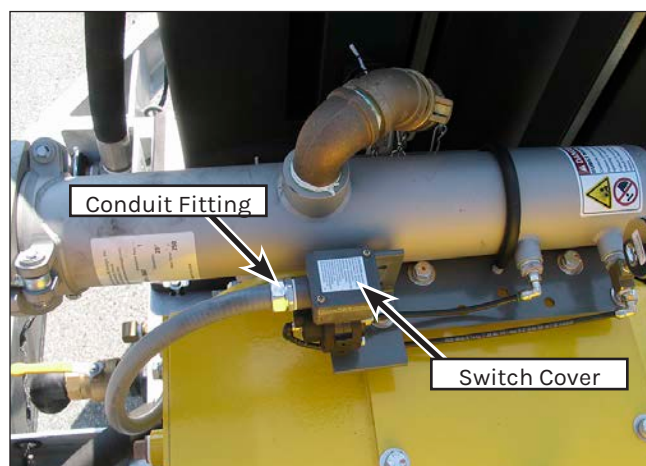

Figure 173: 40K Switch Wiring.
4. If equipped, the secondary filter switch must be disconnected. Remove the two screws that secure the switch cover (Figure 173) and disconnect the wiring. Unscrew the conduit fitting from the switch housing and lay the conduit and wiring aside.